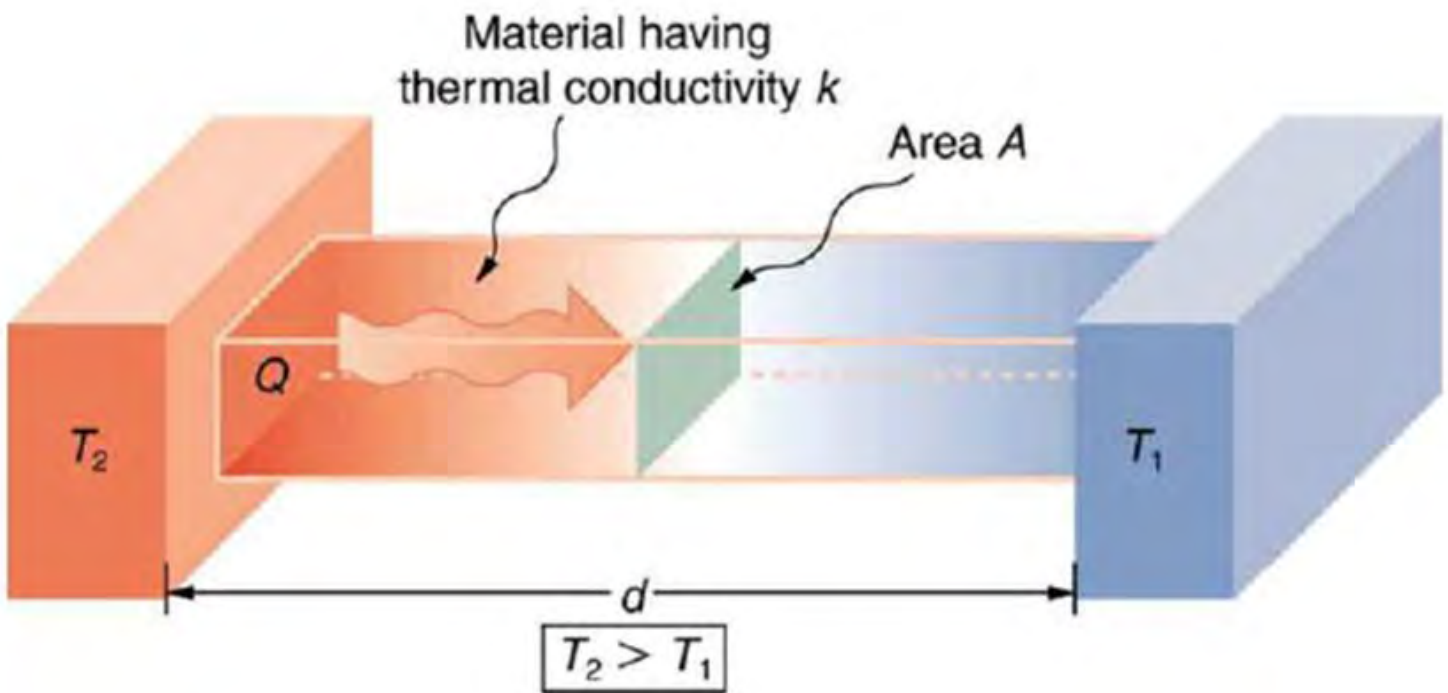

Figure 2. Fourier's law representation.
**FIGURE 2** is the graphical representation of Fourier's equation.
**Thermal resistance.** Thermal resistance (TR) can be thought of as the opposite of thermal conductance. For a steady state conduction as shown in Figure 2, the Fourier's equation for thermal resistance can be written as Eq. 4.